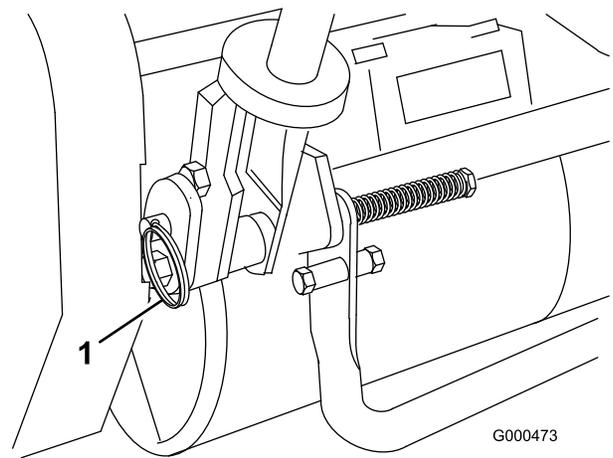

Figure 12
2. While supporting handle, remove ring pins from each side and raise or lower handle to desired operating position (Figure 12).
1. Remove hairpin cotters from ring pins on each side of mower (Figure 12).